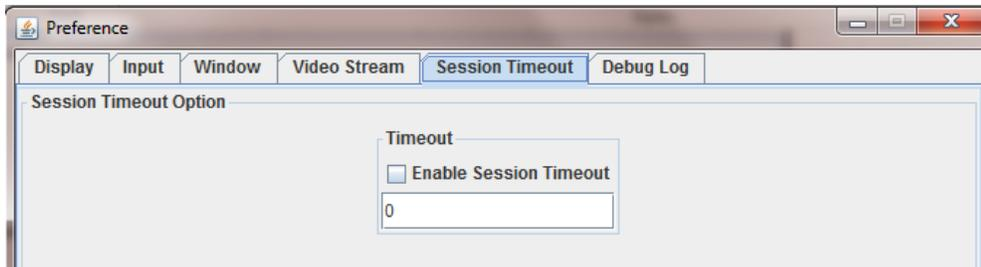

Figure 29. Remote Console Session Timeout Settings
- **Session Timeout** (Figure 29) – Enable session timeout by specifying how many minutes for timeout.